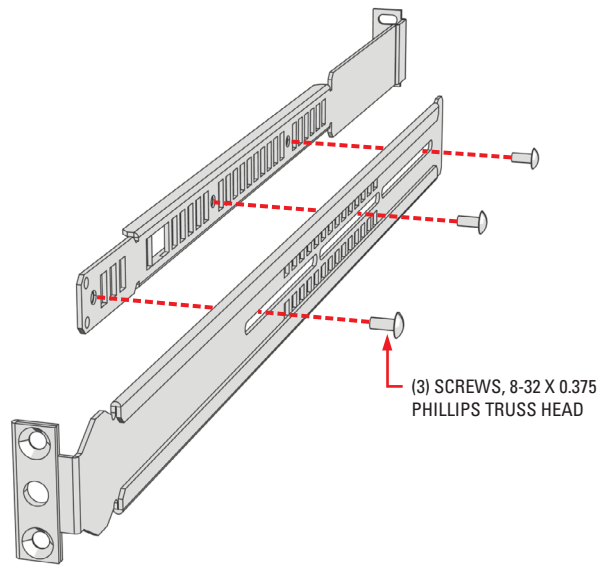

Figure 8. Assembling a Support Rail
3. Attach one front-mount rail to one rear-mount rail. Make sure the rails are mounted back to back, as shown in Figure 8. Use three 8-32 x 0.375-inch Phillips truss head screws for each rail set. Leave the screws loose until step 8.